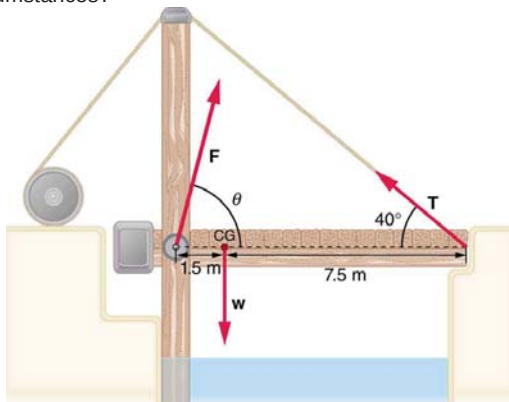

Figure 9.33 A small drawbridge, showing the forces on the hinges (F), its weight (w), and the tension in its wires (T).
12. Suppose the weight of the drawbridge in **Figure 9.33** is supported entirely by its hinges and the opposite shore, so that its cables are slack. The mass of the bridge is 2500 kg. (a) What fraction of the weight is supported by the opposite shore if the point of support is directly beneath the cable attachments? (b) What is the direction and magnitude of the force the hinges exert on the bridge under these circumstances?
13. Suppose a 900-kg car is on the bridge in **Figure 9.33** with its center of mass halfway between the hinges and the cable attachments. (The bridge is supported by the cables and hinges only.) (a) Find the force in the cables. (b) Find the direction and magnitude of the force exerted by the hinges on the bridge.